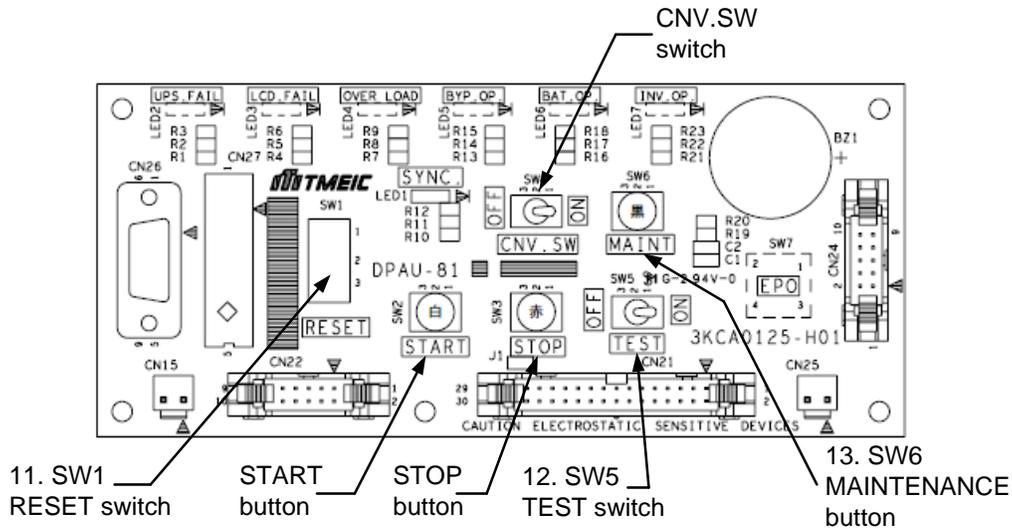

Figure 3-8 Display PCB DPAU-81
2. Display PCB DPAU-81 (Figure 3-8):